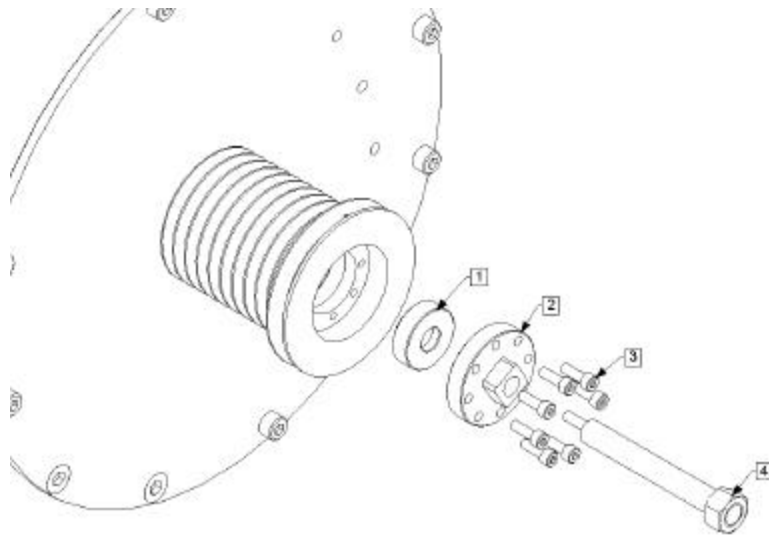

Fig. 37 — Attaching the PTO Bearing Puller to the Drive Plate Assembly
- Remove the Cap Screws and End Cap (Items 1 & 2, Fig. 37).
- Remove the Splined Drive Cap Screws and the Drive Cap (Items 3 & 4, Fig. 37).
- With a sharp pointed awl or similar tool, remove the flat wound spiral retaining ring (Item #5, Fig. 37)
- Attach the PTO Bearing Puller in place of the Splined Drive Cap, as shown in Fig. 37.
- Insert the Puller Alignment Bushing (1).
- Attach the Puller Cap (2) with the Drive Cap Screws (3).
- Thread in the PTO Bearing Puller Bolt (4).